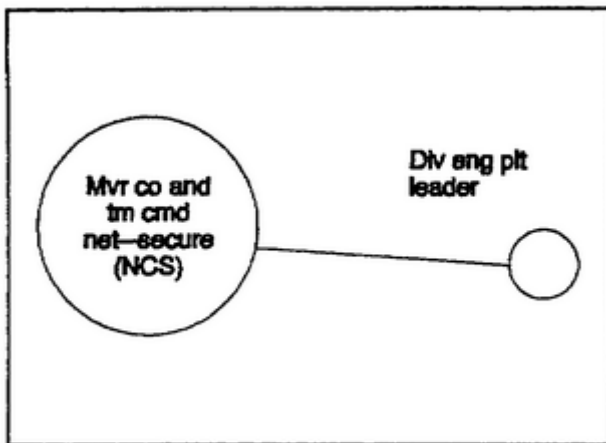

Figure 3-9. Maneuver company and team command net.
- (e) Maneuver company and team command net-secure (as required) (Figure 3-9) includes the division engineer platoon leader.